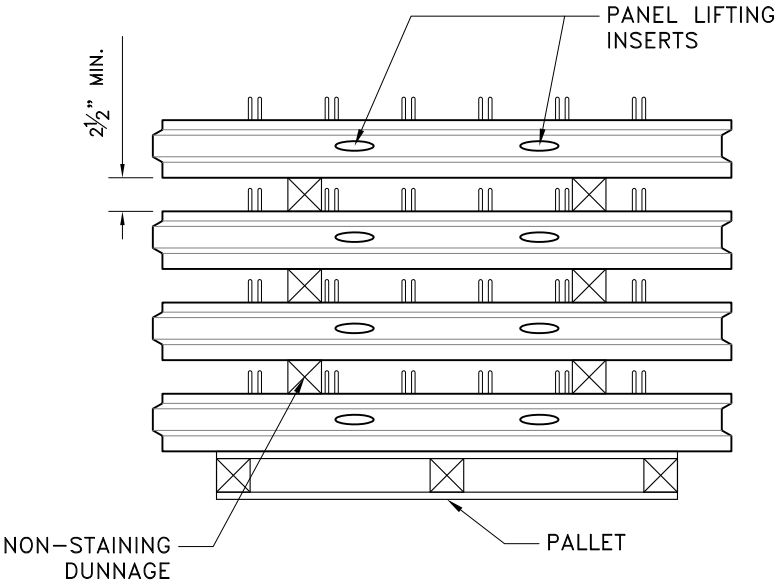

FIGURE 1
2. DUNNAGE SHOULD BE ALIGNED IN THE VERTICAL DIRECTION. CARE SHOULD BE TAKEN NOT TO DAMAGE THE EDGES OR FACE OF THE PANELS DURING UNLOADING, STORAGE OR SETTING. THE PANELS MAY BE UNLOADED SUPPORTED BY THE PROVIDED PALLETS (SHOWN IN FIGURE 1).
3. DURING PANEL ERECTION, PANELS SHALL BE LIFTED AND SET BY THE USE OF THE TWO LIFTING ANCHORS LOCATED IN THE TOP OF EACH PANEL (SHOWN IN FIGURE 1).